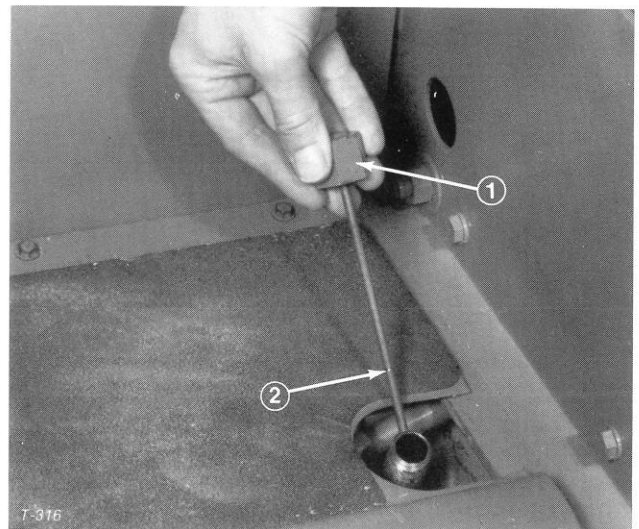

Figure 18
2. Unscrew dipstick cap (Fig. 18) from filler neck and wipe it with a clean rag. Screw dipstick cap finger-tight onto filler neck. Unscrew the dipstick and check level of oil. If level is not within 1/2 inch (13 mm) from the groove in the dipstick (Fig. 18), add enough oil to raise level to groove mark. **DO NOT OVERFILL** by more than 1/2 inch (13 mm) above groove.